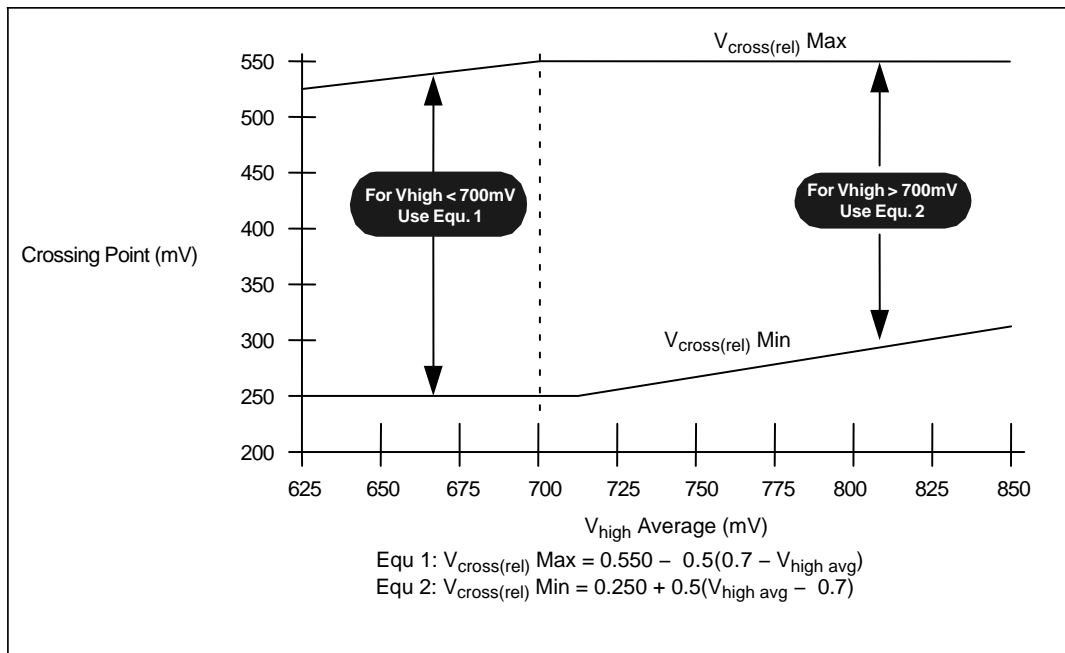

Figure 16. V_{cross} Range Clarification (Note 40)
16. Vcross(rel) Min and Max are derived using the following, $V_{cross(rel)}\text{ Min} = 0.250 + 0.5 (V_{high\ avg} - 0.700)$. $V_{cross(rel)}\text{ Max} = 0.550 - 0.5 (0.700 - V_{high\ avg})$. (see Figure 16 for further clarification).